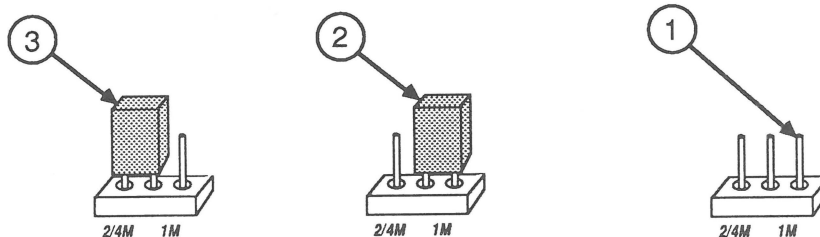

FIGURE 13
A Macintosh SE configured with 4 MB of RAM has a 1 MB SIMM installed in each of the four SIMM sockets on the logic board. Again, the jumper must be completely removed (Figure 13, #1).
- a) Locate the jumper (Figure 13, #2). Using pliers, completely remove the jumper from the three-pin jumper block.
- a) Locate the jumper (Figure 13, #3). Using pliers, completely remove the jumper from the three-pin jumper block.